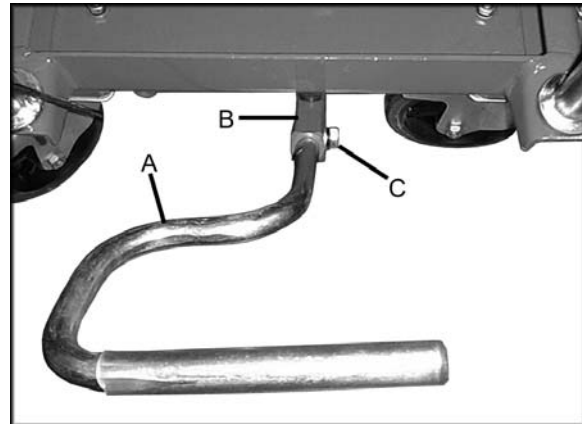

Figure 2
2. Attach foot lever (A, Figure 2) to the lever bracket (B, Figure 2) with one hex cap screw, one flat washer, and one lock washer (C, Figure 2). Tighten with a 14mm wrench.